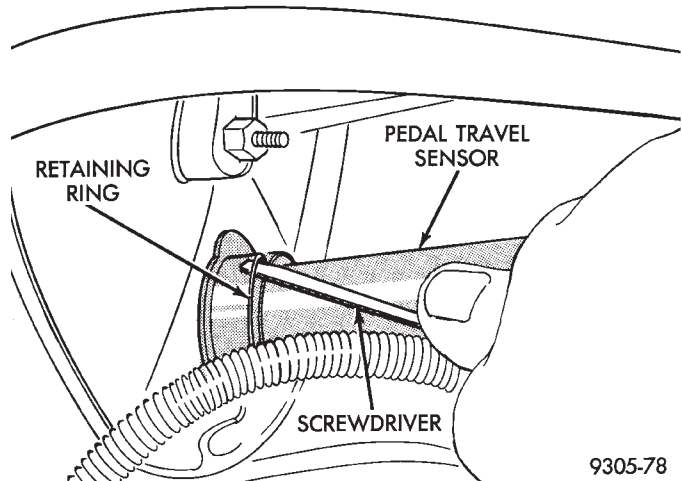

Fig. 2 Pedal Travel Sensor Retaining Ring Removal
(3) Using a small screwdriver, lift pedal travel sensor retaining ring from notch (Fig. 2) in vacuum booster. Then remove retaining ring from pedal travel sensor mounting grommet in vacuum booster.